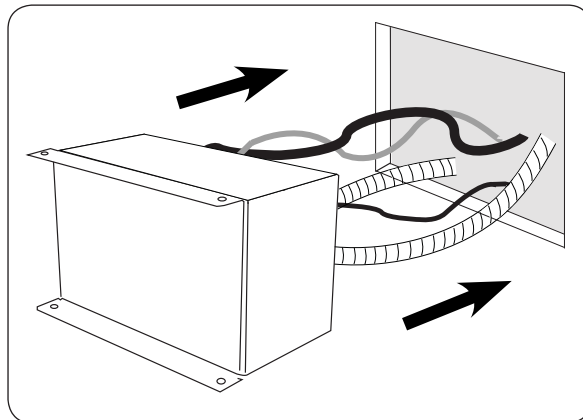
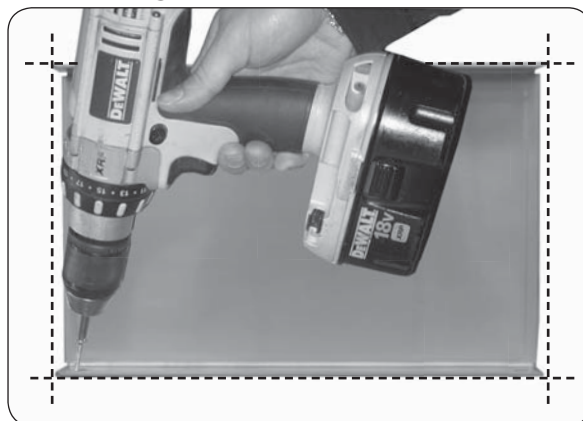

Fig. 10-3 Install valve box
Fig. 10-4 Secure valve box
**Important:** Be sure all wires/tubing are completely inside the opening and are not pinched or kinked when fastening the housing. See Fig. 10-3 & Fig. 10-4.